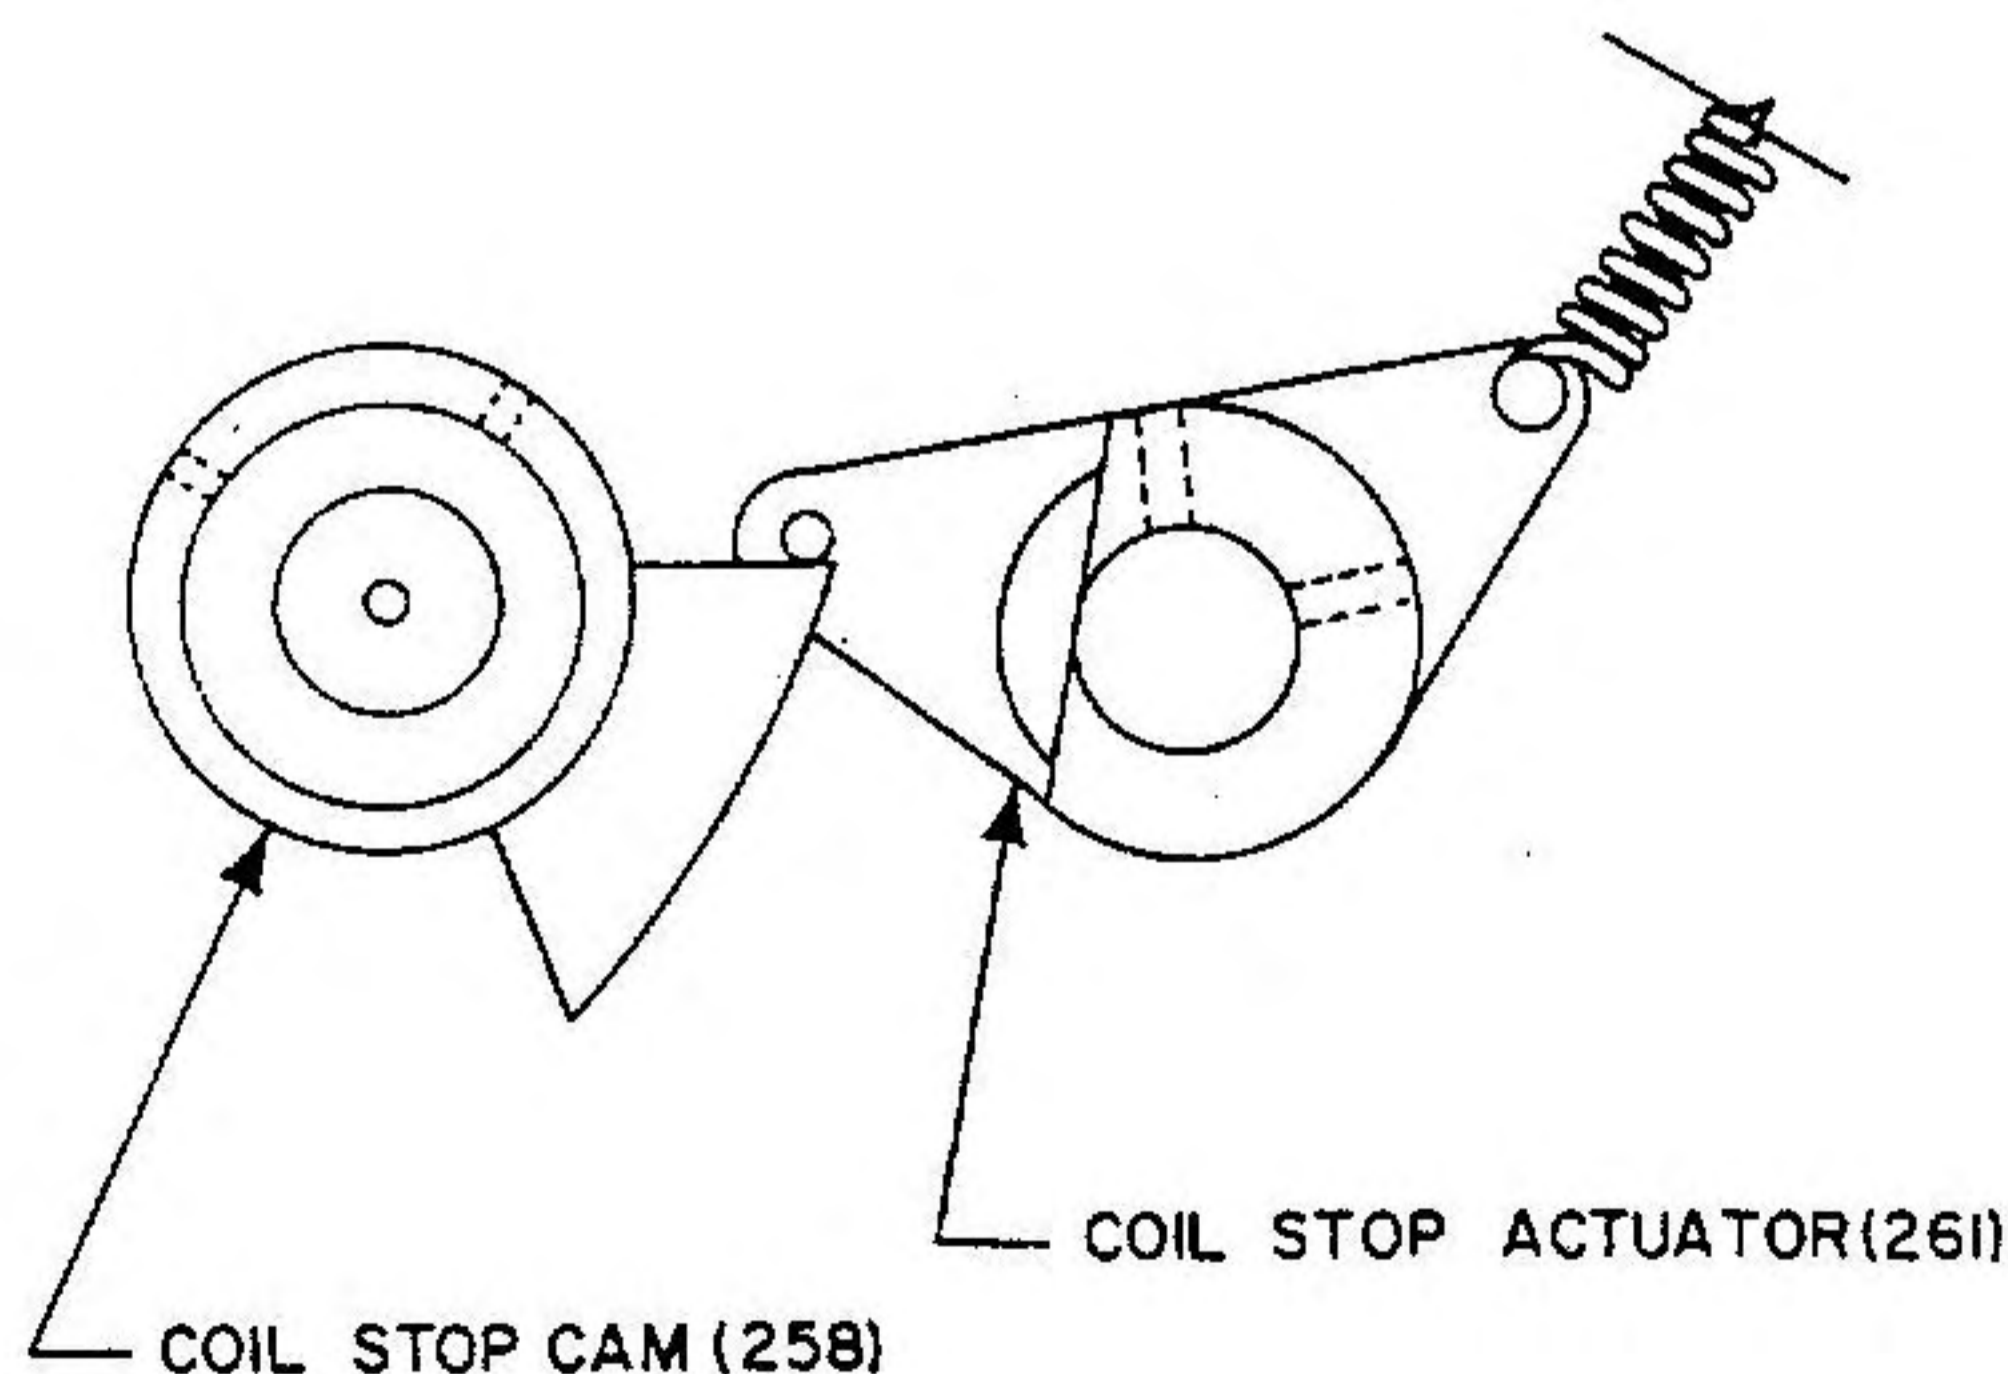

Figure 5-1. Coil Stop Cam Positioning
1. Operate coil drums until coil stop cam (258) is clear of coil stop actuator (261).
2. Loosen two setscrews (260) in coil stop actuator (261). Adjust stop arm (282) so that stop pin (103) attached to gear (102) will miss stop mechanism on both sides as coil is rotated.
3. Carefully retighten setscrews (260) on coil stop actuator (261), making sure that coil stop assembly (282) remains as positioned in step 2.
4. Loosen setscrews (505) on coil stop cam (258).
6. Position coil stop cam (258) counterclockwise as viewed from rear of tuner until leading edge of cam (258) barely touches pin on coil stop actuator (261). See figure 5-1. Retighten setscrews (505) in coil stop cam (258).
9. If coil stop action is not correct at each end of ribbon, repeat steps 5, 6, 7, and 8 until coil stop cam (258) is correctly positioned.